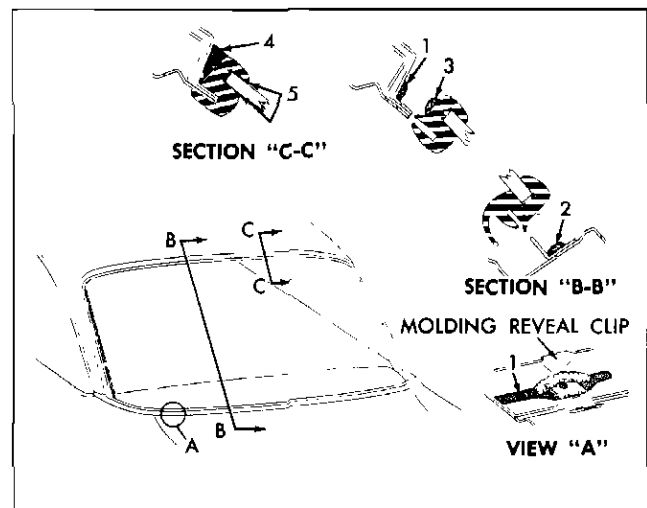

Fig. 4-5 Back Window Sealing—37 Styles
2. Check installation of reveal molding clips at pinchweld and retaining flanges and replace clips, where necessary. If replacing clips, apply medium-bodied sealer to opening rabbet, prior to installing clips. (1 in View A Fig. 4-5).
3. Apply a continuous ribbon of medium-bodied sealer (approximately $\frac{1}{2}$ " wide by $\frac{1}{4}$ " thick) on wall of rabbet, completely around opening. (2 in Section B-B Fig. 4-5).
5. Apply a continuous ribbon of medium-bodied sealer (approximately $\frac{1}{2}$ inch wide by $\frac{1}{4}$ inch thick) to base of rubber channel across top and down sides at opening. (3 in Section B-B Fig. 4-5).
8. Using a pressure type applicator, apply sufficient medium-bodied sealer to completely fill any openings between rubber channel and body completely around rubber channel. (4 in Section C-C Fig. 4-5).
9. Using a pressure type applicator (pistol type oiler) apply weatherstrip adhesive (black) between rubber channel and glass on inside and outside of glass around entire perimeter of glass (5 in Section C-C Fig. 4-5). Application of adhesive should be continuous with no skips.